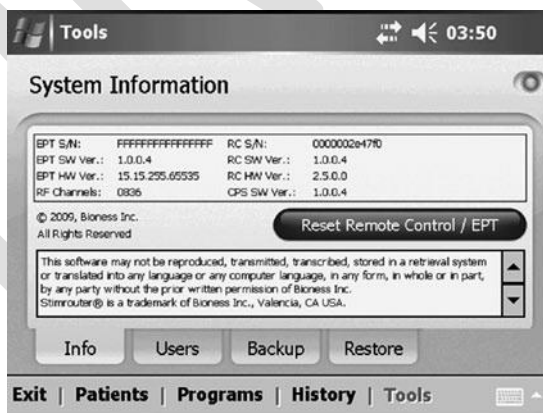

Figure 8-1. Resetting the patient programmer and EPT.
2. Press the TOOLS MENU, and then, on the INFO TAB, press “Reset Patient Programmer/EPT.” See Figure 8-1.